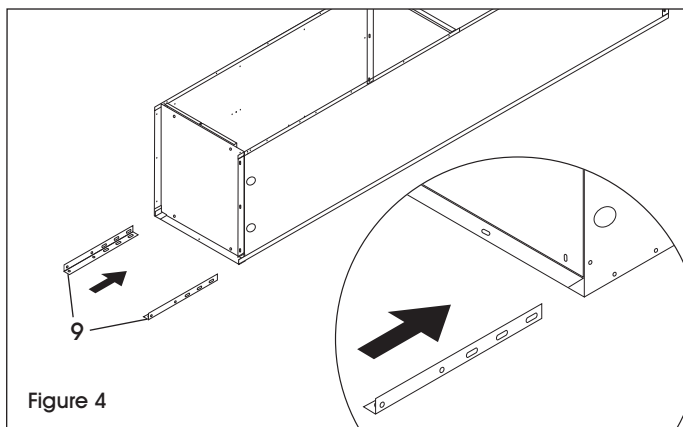

Figure 4
6. Insert rear legs (9) into the corner between the bottom and the side. Bolt the leg to the side and back using six bolts and nuts per leg. (See Figure 4)